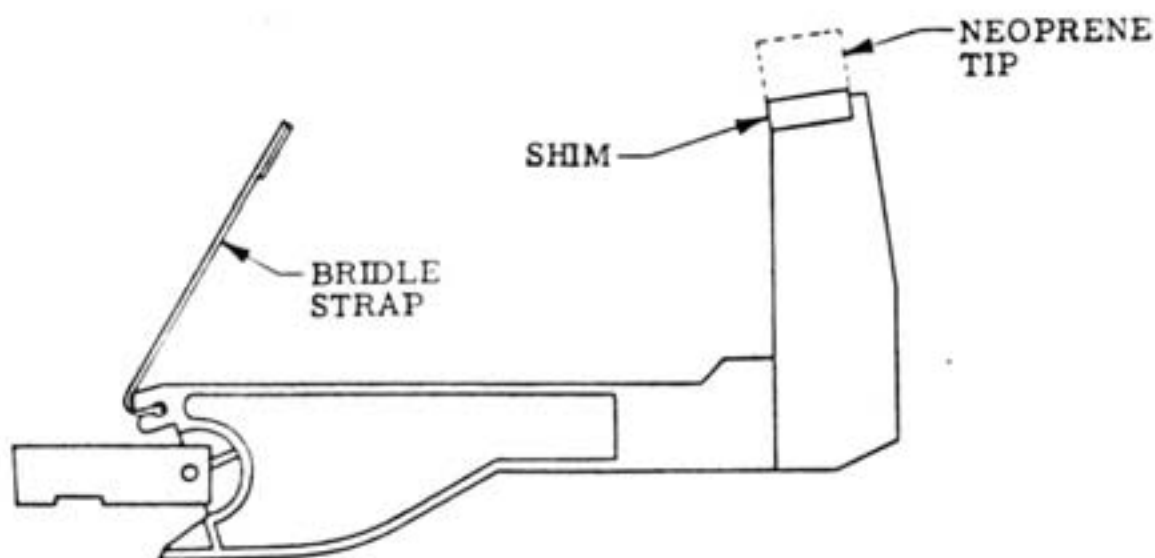

FIGURE 13
5. Create a  $1/8'' \times 3/8'' \times 3/8''$  shim and glue into place on the Hammer Head as shown in Figure 13. This is necessary in order to bring the Hammer Tip up to the full height of the one replaced.